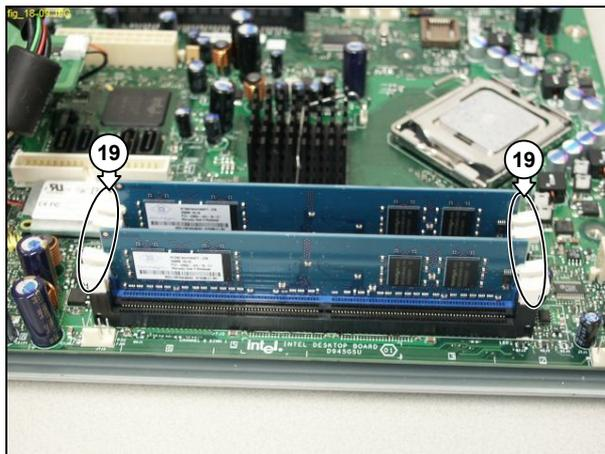

Figure 12.15-10
2. Release the retaining clips (19) on the DIMM connector. See Figure 12.15-10.